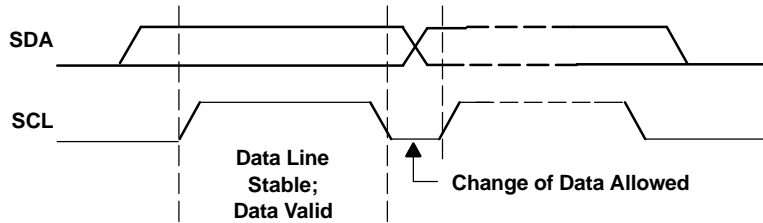
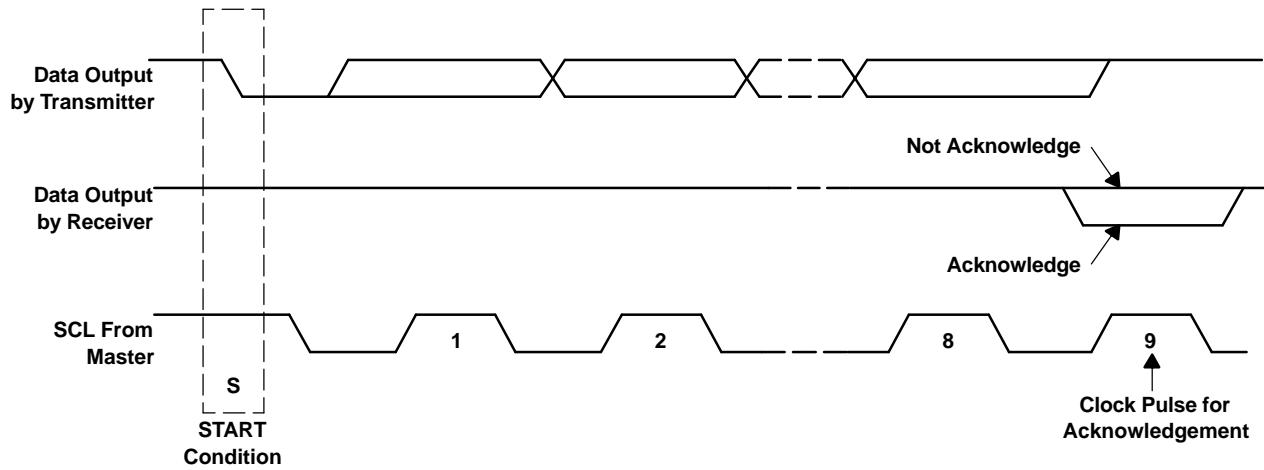

Figure 32. Bit Transfer on the I²C Bus
Figure 33. Acknowledge on the I²C Bus
- The master then generates the SCL pulses, and transmits the 7-bit address and the *read/write direction bit* R/\bar{W} on the SDA line. During all transmissions, the master ensures that data is *valid*. A *valid data condition* requires the SDA line to be stable during the entire high period of the clock pulse (see Figure 32). All devices recognize the address sent by the master and compare it to their internal fixed addresses. Only the slave device with a matching address generates an *acknowledge* (see Figure 33) by pulling the SDA line low during the entire high period of the ninth SCL cycle. Upon detecting this acknowledge, the master knows that communication link with a slave has been established.